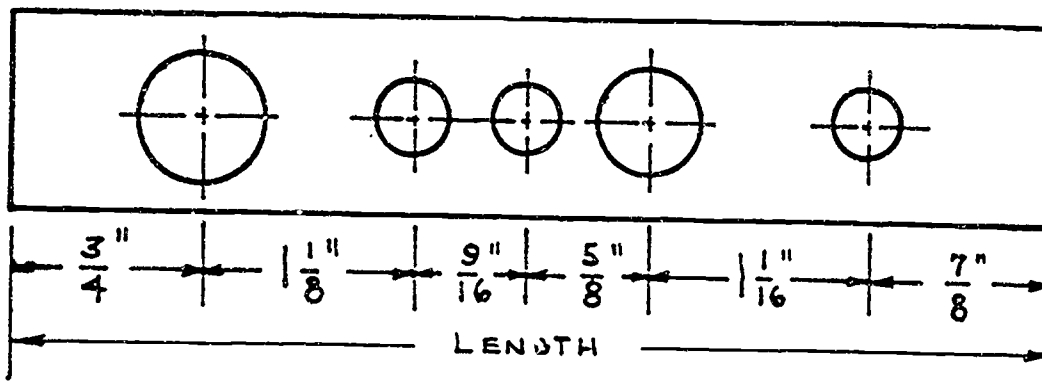

Figure 4: How long is this bar?
2. Your supervisor wants you to find out the total length of the bar in Figure 4. Length _____